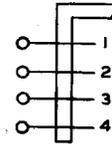

Fig. 5—234 and 235 Plug
2.09 234 and 235: The 234 and 235 plugs (Fig. 5) are intended for use in making connections with terminal strips on intermediate distributing frames and are arranged to clamp on the punchings of the terminal strips by means of a sliding arm.